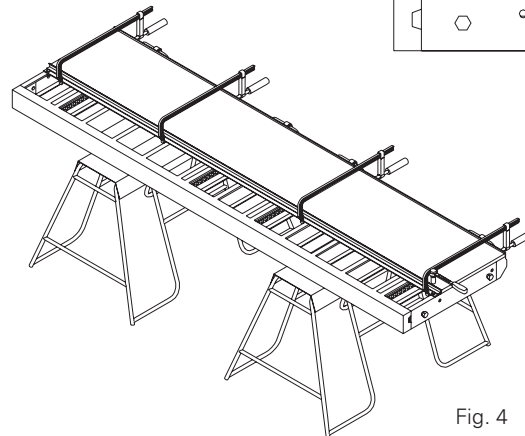

Fig. 4
6. Tighten by means of G-clamps. Fig.4